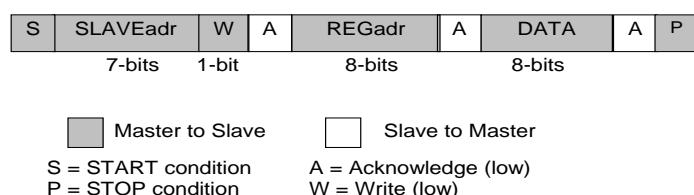
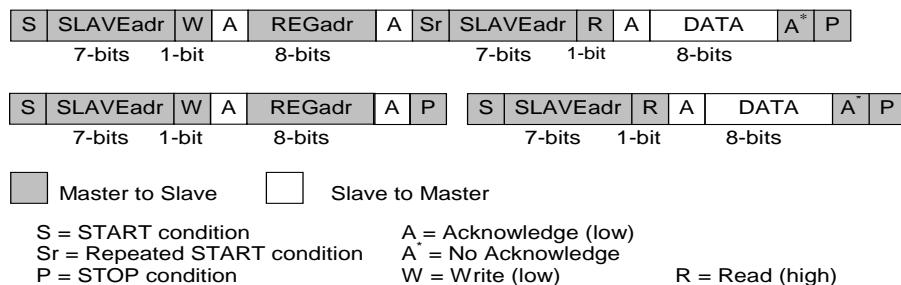

Figure 10: I²C Byte Write (SDA Line)
Figure 11: I²C Byte Read (SDA Line) Examples
The I²C bus is monitored for a valid slave address whenever the interface is enabled. It responds immediately when it receives its own slave address. The acknowledge is done by pulling the SDA line low during the following clock cycle (white blocks marked with A in Figure 10 and Figure 11).
The protocol for a register write from master to slave consists of a START condition, a slave address with read/write bit, and the eight-bit register address followed by eight bits of data, terminated by a STOP condition. DA9142 responds to all bytes with acknowledge (A), see Figure 10.
When the host reads data from a register it first has to write to DA9142 with the target register address and then read from DA9142 with a repeated START, or alternatively a second START, condition. After receiving the data, the host sends no acknowledge (A^*) and terminates the transmission with a STOP condition, see Figure 11.